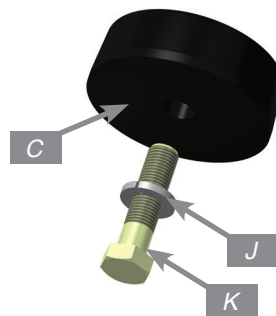

fig. 16
7. Seat the airspring within the lower control arm/roll plate and align the threaded center of the airspring with the lower spring seat. Apply a long bolt (K) and lock washer (J) through the centering spacer (C) and into the underside of the control arm (fig. 16). Thread the bolt into the airspring (fig. 17), and torque to 27 Nm (20 ft-lbs.)